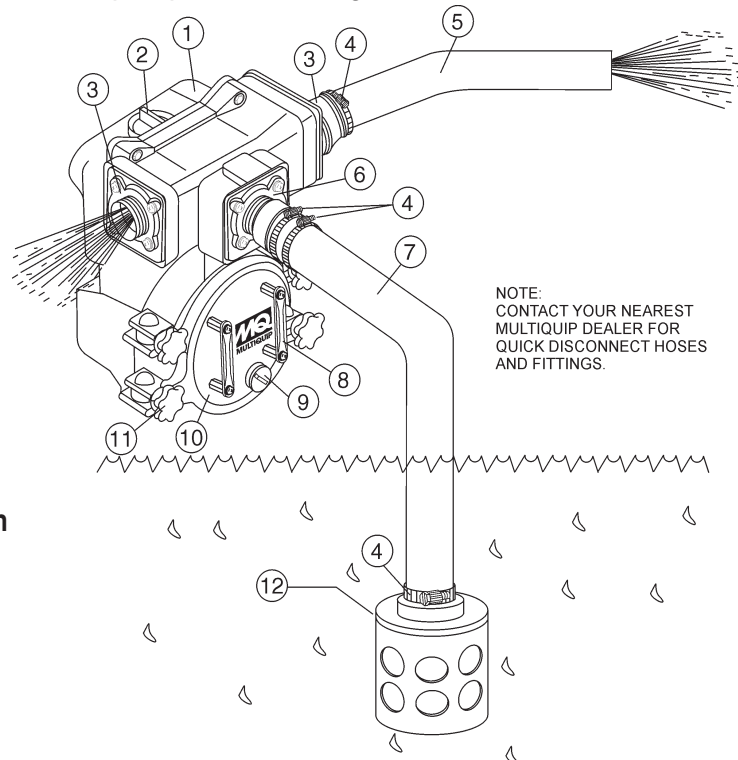

Figure 2. QP4TE Pump Application
Figure 2 shows a typical application using the QP4TE Centrifugal Trash pump. Please note that this pump is intended for the removal of clean water and water containing some debris and solids. Maximum size of solids should not exceed 2 inches (50 mm) in diameter. **DO NOT** set strainer on bottom of water bed. Placing the strainer above the water bed will prevent the pump from drawing in excessive amounts of sand and foreign debris.
- Check that the **discharge** hose (Figure 2) is not restricted. Place hose so that it lays as straight as it is possible on the ground. Remove any twists or sharp bends from hose which may block the flow of water.
- To prime pump, remove fill cap (Figure 2) and fill pump casing with water. If the pump casing is not filled with water before starting, it will not begin pumping.
- Make sure the **suction strainer** (Figure 2) is clean and securely attached to the water end of the suction hose. The strainer is designed to protect the pump by preventing large objects from being pulled into the pump.
- Check that all hoses are **securely** attached to the pump. Make certain suction hose (Figure 2) does not have any air leakage. Tighten hose clamps and couplings as required.